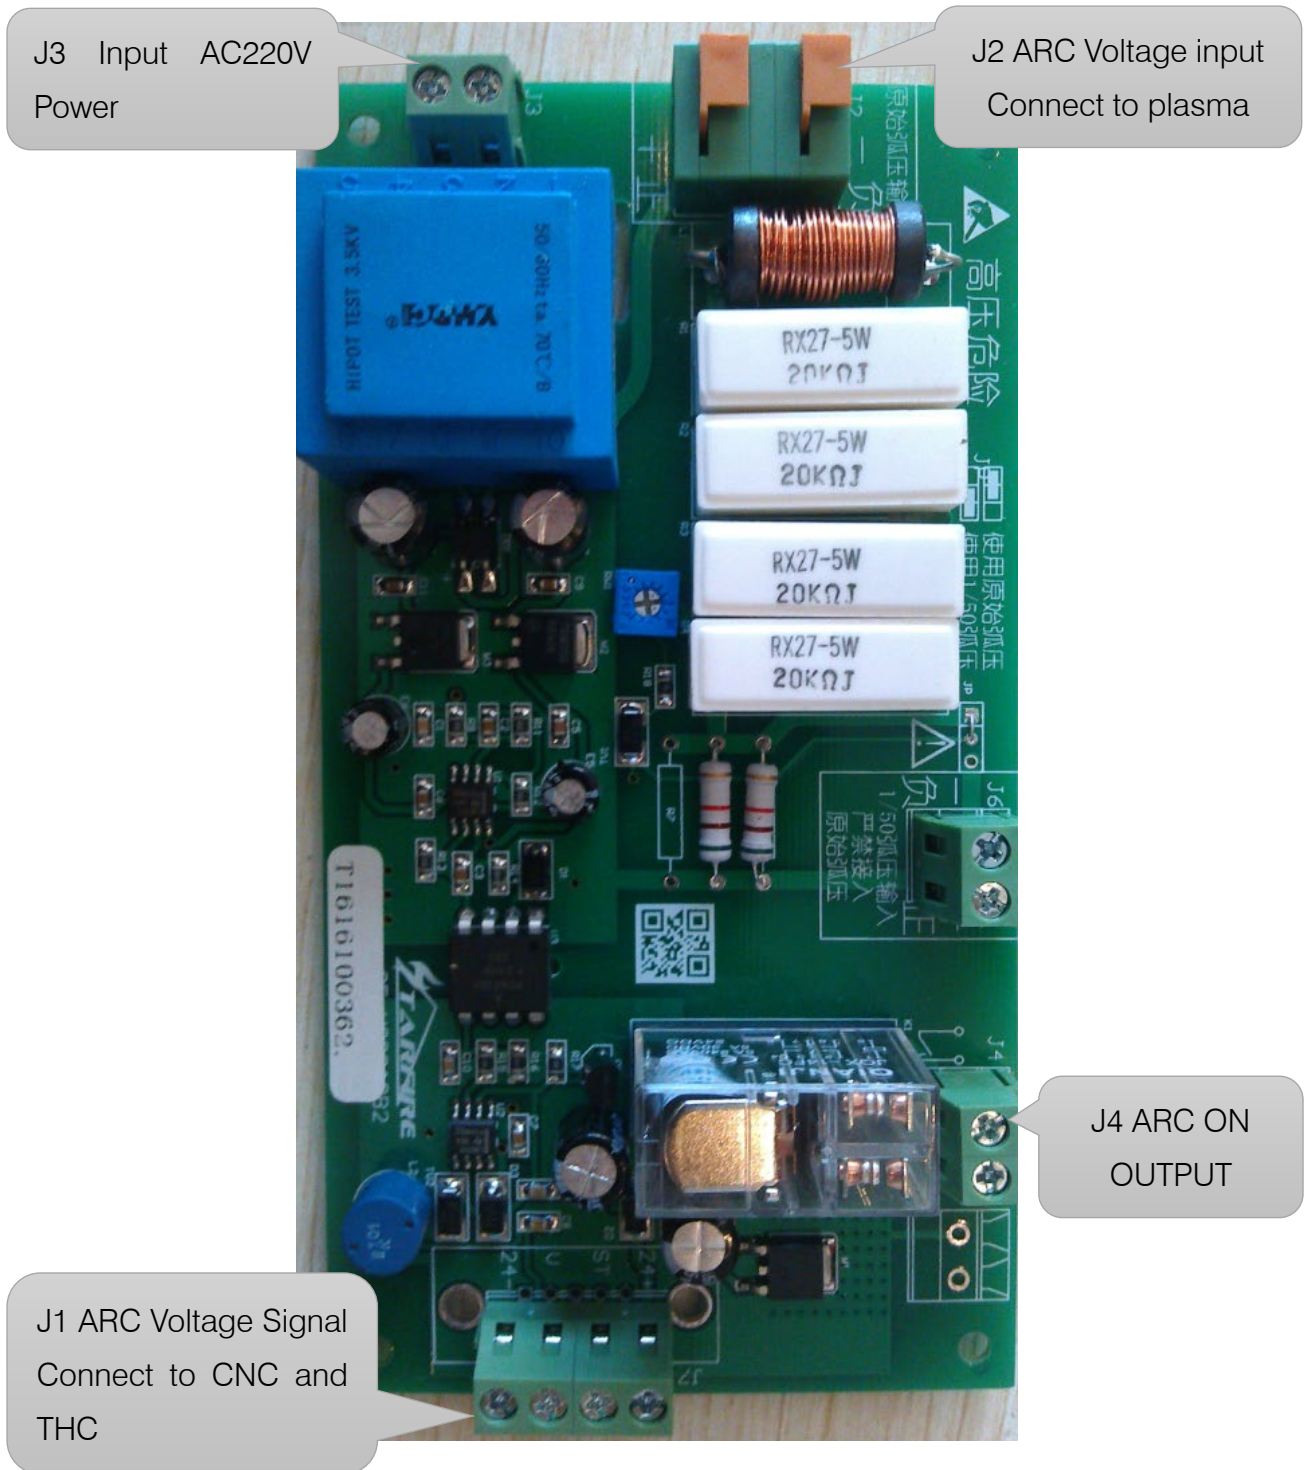

Fig. 3-10 Interface Description of Voltage Dividing Plate
- ◆ The description of each interface of voltage dividing plate is shown in Fig. 3-10.